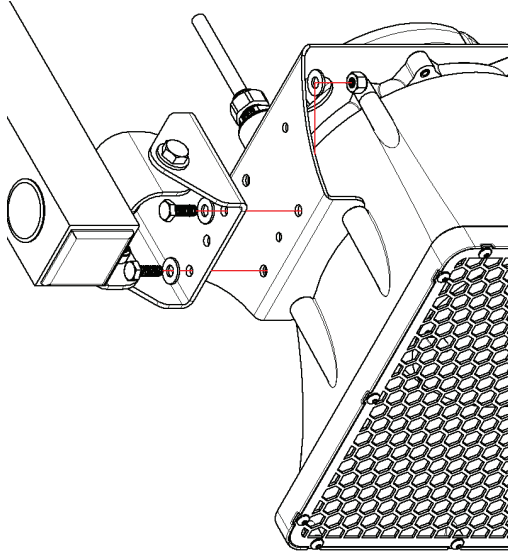

Figure 4: Attaching Wall Mounting Bracket
- 1) To mount a single TCPA-10, attach the mounting bracket to the wall bracket (optional accessory or customer supplied) with three ¼"-20 bolts (Figure 4).